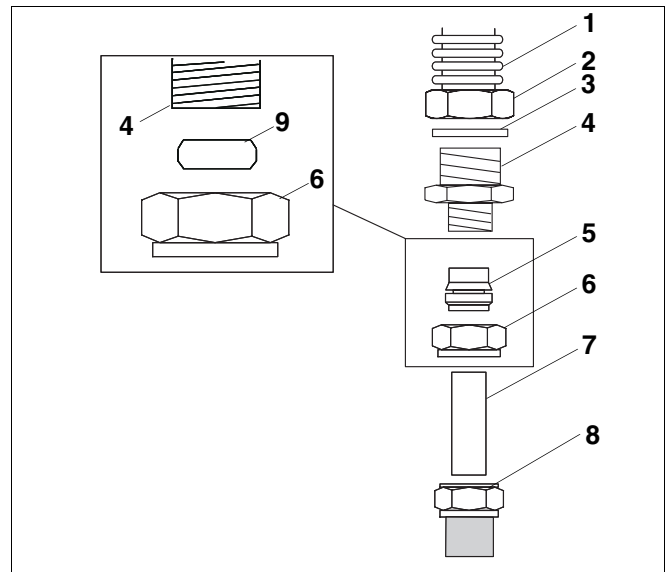

Fig. 6 Twin Tube DN 20 connection to 18 mm compression fitting
- Insert the gasket (Fig. 6, **item 3**) into the pre-assembled union nut Rp1 (Fig. 6, **item 2**).
- Connect the straight compression fitting R1 × 22 mm (Fig. 6, **item 4 and 6**) with the union nut Rp1 (Fig. 6, **item 2**) of the corrugated stainless steel hose (Fig. 6, **item 1**).
- Secure the pre-assembled union nut Rp1 (Fig. 6, **item 2**) with the straight compression fitting R1 × 22 mm (Fig. 6, **item 4**) using a suitable spanner.
- Replace the 22 mm locking ring of the compression fitting (Fig. 6, **item 9**) with a reducer 22 × 18 mm (Fig. 6, **item 5**).
- Trim the copper pipe Ø 18 mm (Fig. 6, **item 7**) to size to enable the tube to be pushed 2–3 cm into the compression fitting (Fig. 6, **item 4, 8 and 6**).
- Push the trimmed copper pipes Ø 18 mm (Fig. 6, **item 7**) right up to the stop end into the compression fittings. The 22 × 18 mm reducers (Fig. 6, **item 5**) should completely surround the copper tubes Ø 18 mm.